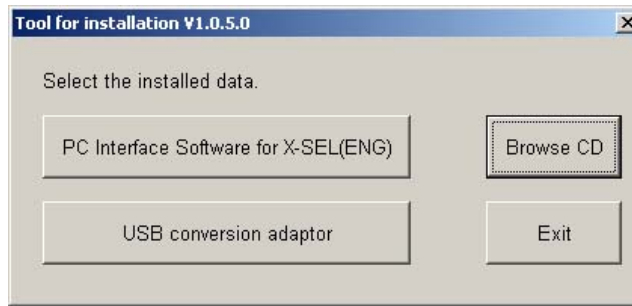

Fig. 1.8 Installed Data Selection Screen
[2] The installed data selection screen (Fig. 1.8) will be displayed.
- [6] Once the complete screen (Fig. 12) has been displayed, click **OK**. The complete screen (Fig. 1.12) will disappear. Then, click **Cancel** on the screen to specify the folder of the copy destination (Fig. 1.9). The screen to specify the folder of the copy destination will disappear. Finally, click **Exit** on the data selection screen (Fig. 1.8). The data selection screen (Fig. 1.8) will disappear.